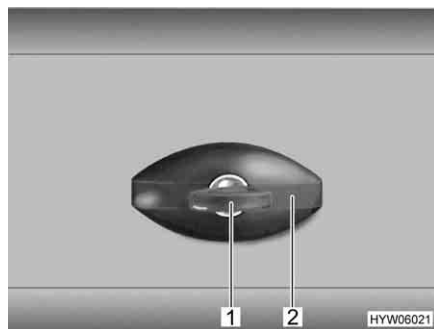

Fig. 46 Flap lock, elliptical-shaped, closed
- Insert key into locking cylinder (Fig. 46,1) and turn a quarter turn in an anti-clockwise direction. The lock handle (Fig. 46,2) snaps out.